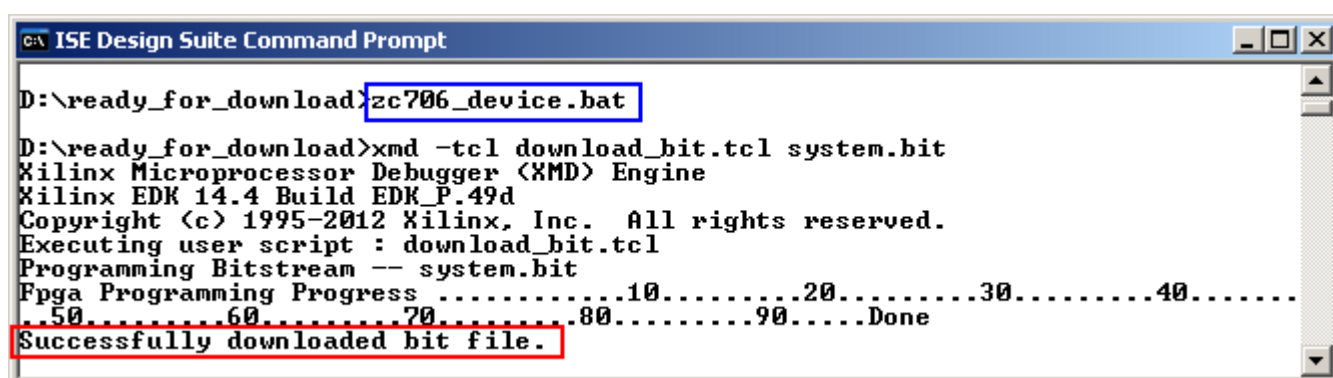

Figure 2-2 Configuration File Downloading
- Type “zc706_device.bat” to start downloading configuration file and the firmware. On the console, “Successfully downloaded bit file” is displayed when configuration finish, and “Download Progress .10.20 ... 90.Done” is displayed when firmware downloading finish, as shown in Figure 2-2 and Figure 2-3 consecutively